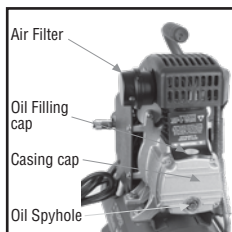

Fig. 1
2. Verify oil level through the indicator spyhole set in the compressor rear side. Should the oil level do not reach the middle (red circle), fill the deposit with SAE-30 motor oil until getting the right level. Connect the power cable and operate compressor unloaded to verify is working correctly. (See figure 1)
- The compressor works with SAE-30 lubricating oil. Fill with oil before operating. While running the oil temperature should be below 158 °F (See figure 1)
- Clean filter regularly once a week. (See figure 1).